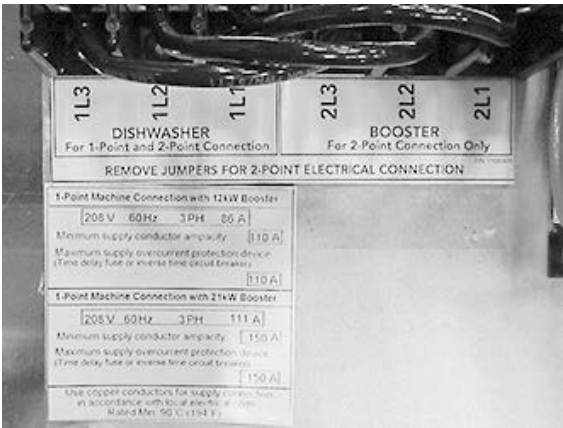
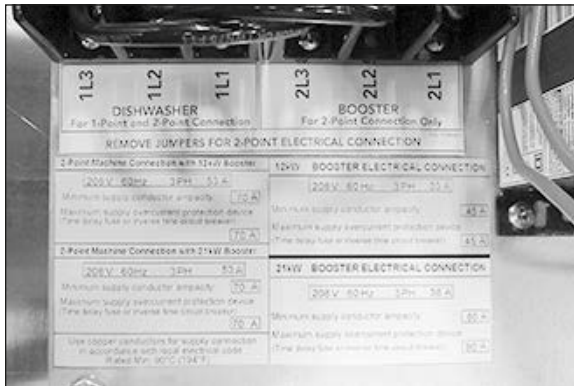
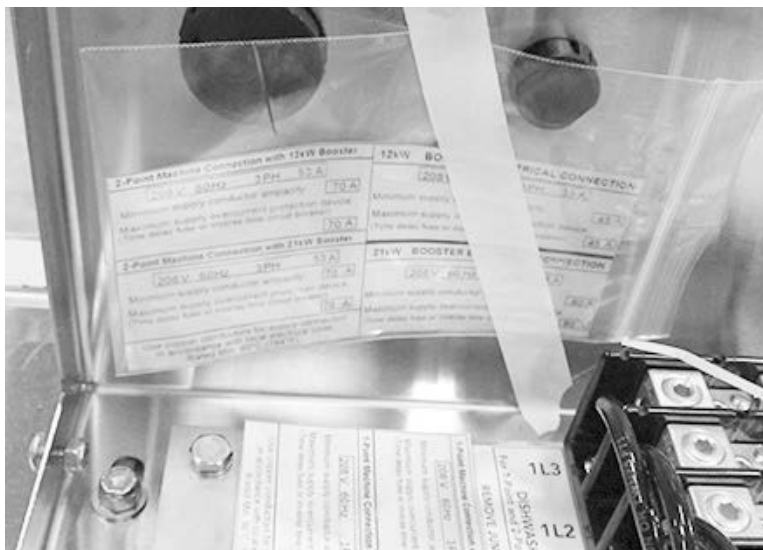

Fig.13 - 1-point connection data plate
Fig.14 - 2-point connection data plate
Fig.15 -
2. Cover the existing 1-point connection data plate, (Fig. 13), with the 2-point connection data plate, (Fig. 14), stowed in the plastic bag, (Fig. 15), next to the input terminal block.